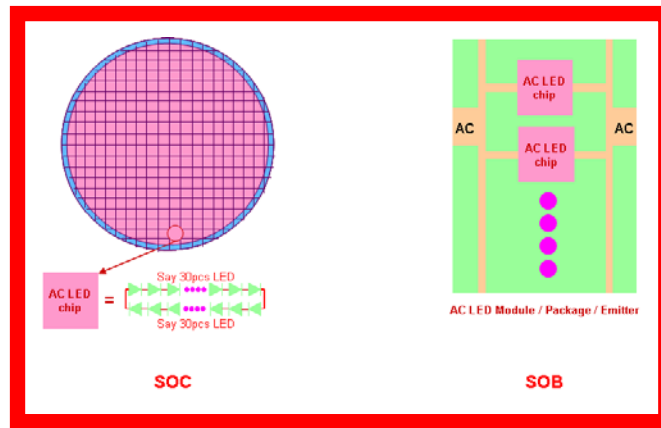
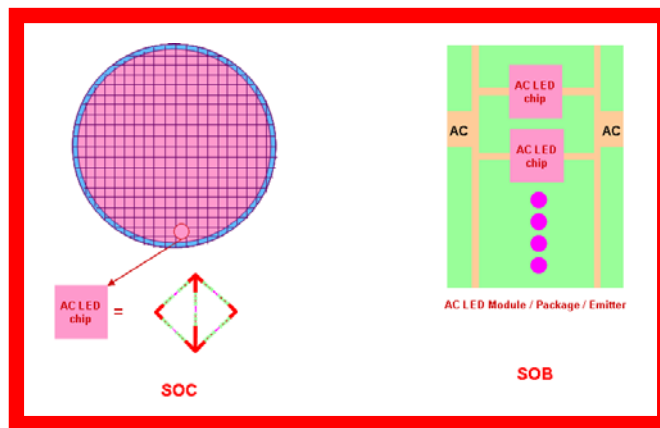

Figure 4 、 AC LED Module of Seoul Semiconductor Corporation
Figure 5 、 AC LED Module of ITRI
- a. The current AC LED Module with Seoul Semiconductor Corporation 、 the Industrial Technology Research Institute (ITRI) and other semiconductor companies are conducting research and product development . For the first two units , the manufacturing process of AC LED chip are more difficult 、 have low yield 、 need additional external resistors and different  $V_f$  (Forward Voltage) of AC LED chips match different external resistors , the above increases complexity of the system . Technical chart of Seoul Semiconductor Corporation is shown in Figure 4 . Technical chart of ITRI is shown in Figure 5 .